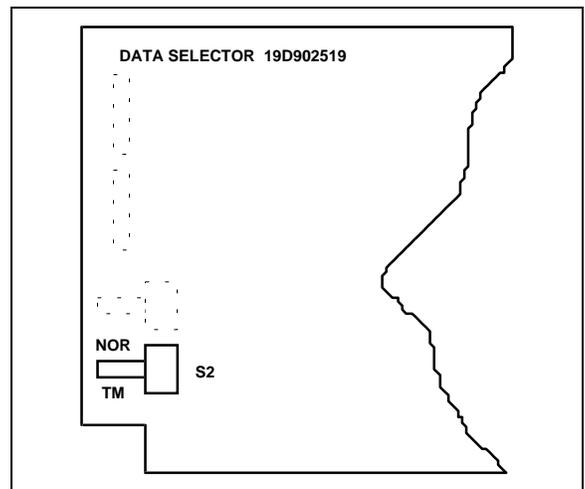

Figure 1. Data Selector Module, S2 Location
1. Set test enable switch S2 on the 150 baud digital selector board to the TM (test mode) position and verify that the red "test" LED DS1 is ON. See Figure 1
2. Set test enable switch S2 on the 150 baud data selector board to the TM (test mode) position and verify that the red “test” LED DS1 is ON. See Figure 1